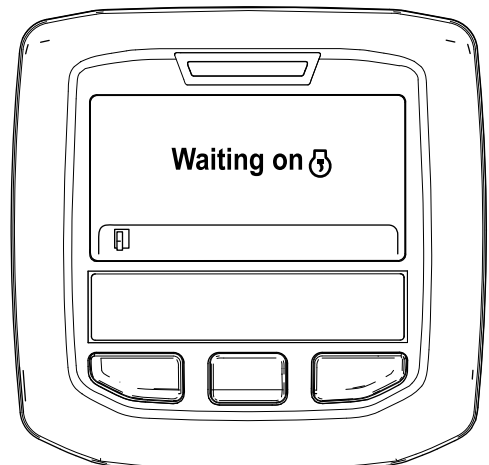

Figure 51
- B. The "Waiting on [engine icon]" message displays (Figure 51).